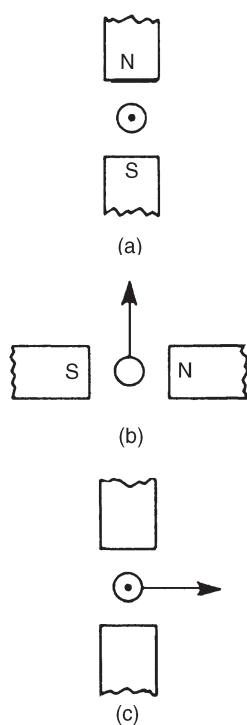
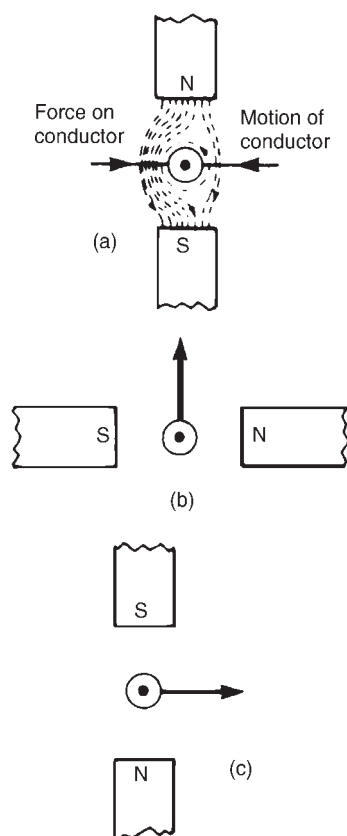

Figure 9.4
Figure 9.5
**Problem 5.** The diagram shown in Figure 9.4 represents the generation of e.m.f.s. Determine (i) the direction in which the conductor has to be moved in Figure 9.4(a), (ii) the direction of the induced e.m.f. in Figure 9.4(b), (iii) the polarity of the magnetic system in Figure 9.4(c).
- (i) Using Lenz's law: The field due to the magnet and the field due to the current-carrying conductor are shown in Figure 9.5(a) and are seen to reinforce to the left of the conductor. Hence the force on the conductor is to the right. However Lenz's law states that the direction of the induced e.m.f. is always such as to oppose the effect producing it. **Thus the conductor will have to be moved to the left.**
Second finger — E.m.f., i.e. **towards the viewer or out of the paper**, as shown in Figure 9.5(b)
- (iii) The polarity of the magnetic system of Figure 9.4(c) is shown in Figure 9.5(c) and is obtained using Fleming's right-hand rule.